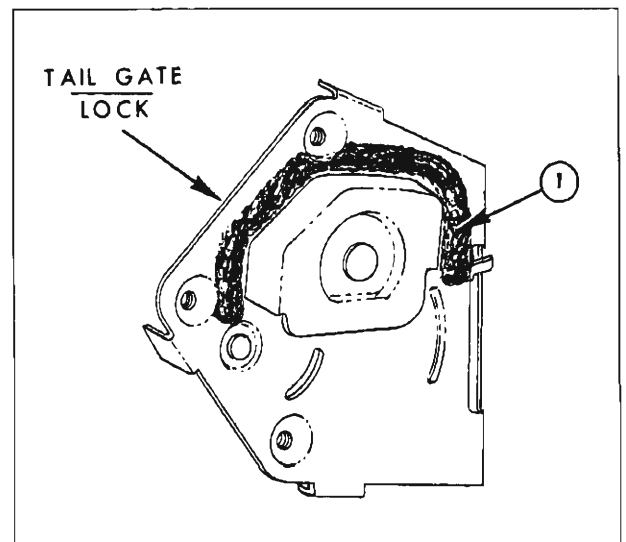

Fig. 90—Tail Gate Lock Sealing
5. To install tail gate lock assembly, reverse removal procedure. Prior to installing lock assembly into tail gate, apply a bead of body caulking compound to lock frame along the joint of the lock bolt housing ("1" in Figure 90).